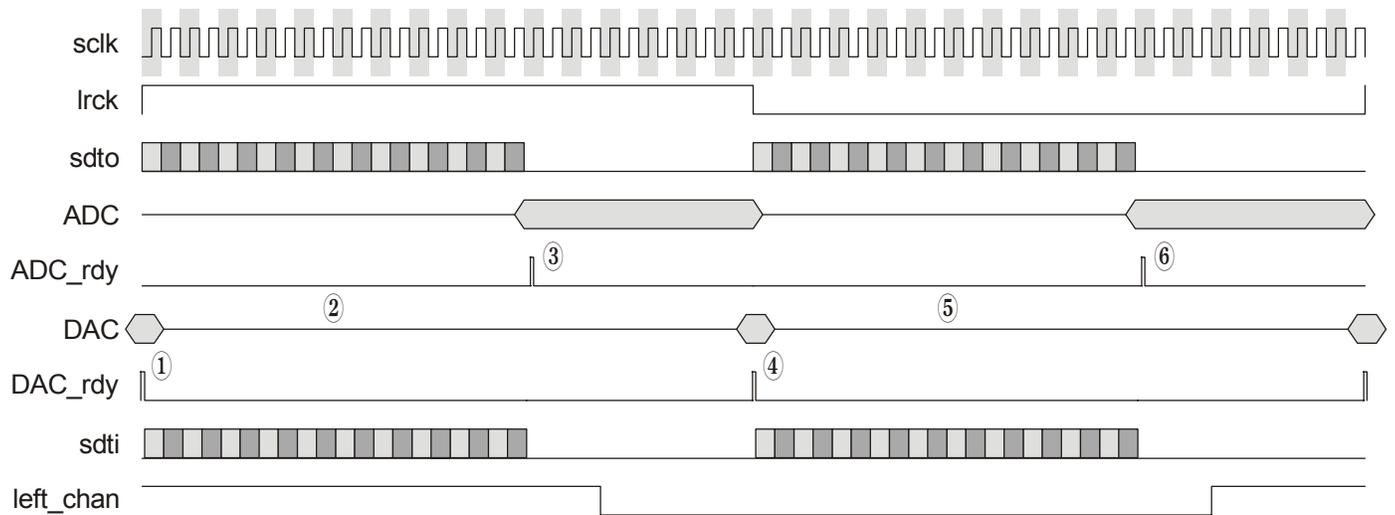

Figure 2: Codec interface waveforms for the XST-1.3.X, XST-2.0.X and XSB-300E Boards.
The timing waveforms for the codec interface when used with an XST-1.3.X, XST-2.0.X or XSB-300E Board are shown in Figure 2. At ①, DAC_rdy goes high to signal that data for the left-channel DAC is needed (as indicated by left_chan being high). The data must be presented on the DAC bus before the next rising edge on clk (not sclk). The value is shifted out MSB-first on sdti during interval ②. During the same interval, the data from the left-channel ADC is received through sdto. ADC_rdy goes high at ③ to